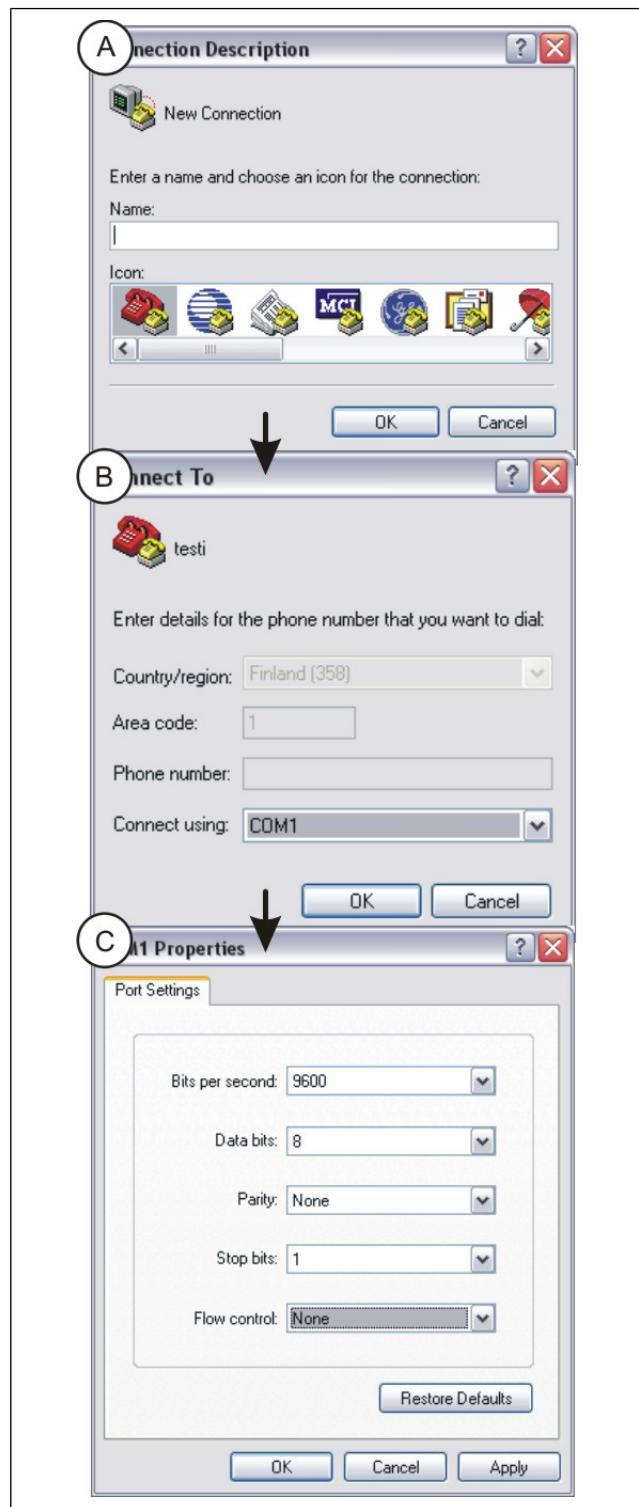

Fig. 8. Using HyperTerminal: creating a connection, and COM port settings.
4. Give settings for the connection in the "New Connection" window, and choose an icon for it (Fig. 8, step A).
5. Give settings for the connection port in the "Connect To" window (for example COM1) and click OK to confirm (Fig. 8, step B).
6. Change the COM port settings as shown and click OK to confirm (Fig. 8, step C).